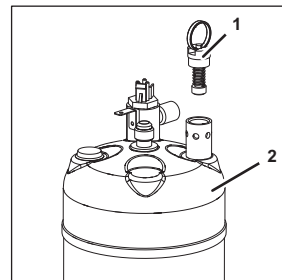

Fig. 80
2. Turn the drain valve (Fig. 80/1) and remove it from the carbonator tank (Fig. 80/2).
3. Attach the new drain valve (Fig. 80/1) to the carbonator tank (Fig. 80/2) by turning it.